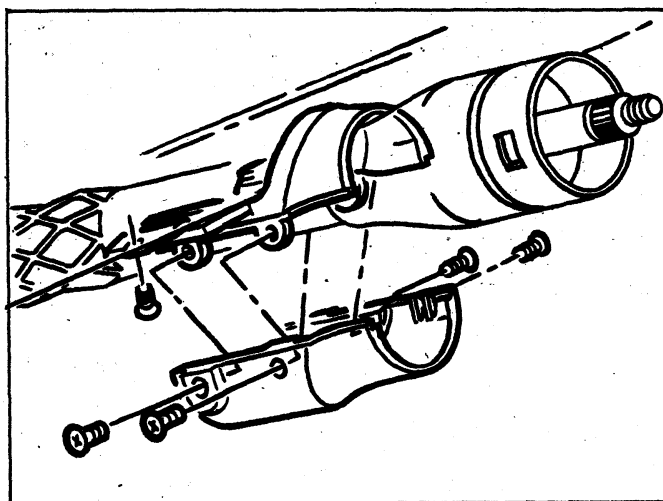

Fig. 18—Mast Jacket Cover Attachments—Chevy II
4. Remove screws attaching upper and lower mast jacket covers together and remove lower cover (fig. 18).